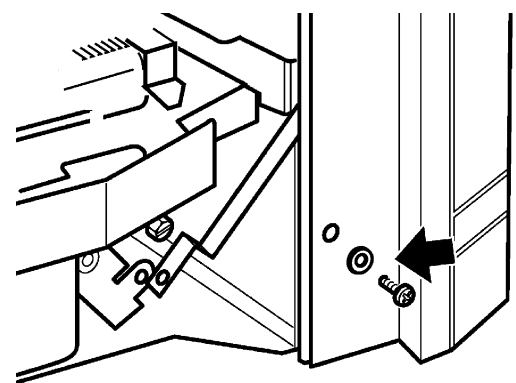

Figure 32. Fascia securing (Fascia may differ from that shown)
3. Swing the bottom control linking bar towards the centre of the fire to clear the right side of the fascia. Slide the fascia sideways, if necessary, to align the bottom fixing holes with those in the hotbox. Fix the bottom of the fascia to the hotbox with the two washers (*Not required on Heritage model*) and black screws supplied (See figure 32).